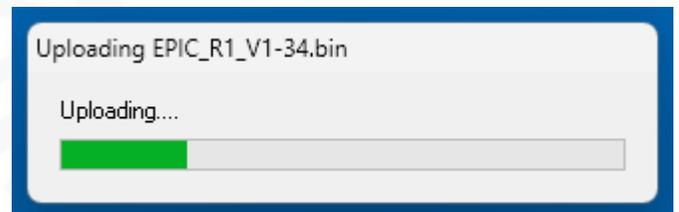

Figure 6
8. Click on “Update F/W” and you should see an update window similar to figure 6 with a green progress bar. This normally only takes a few seconds to complete.